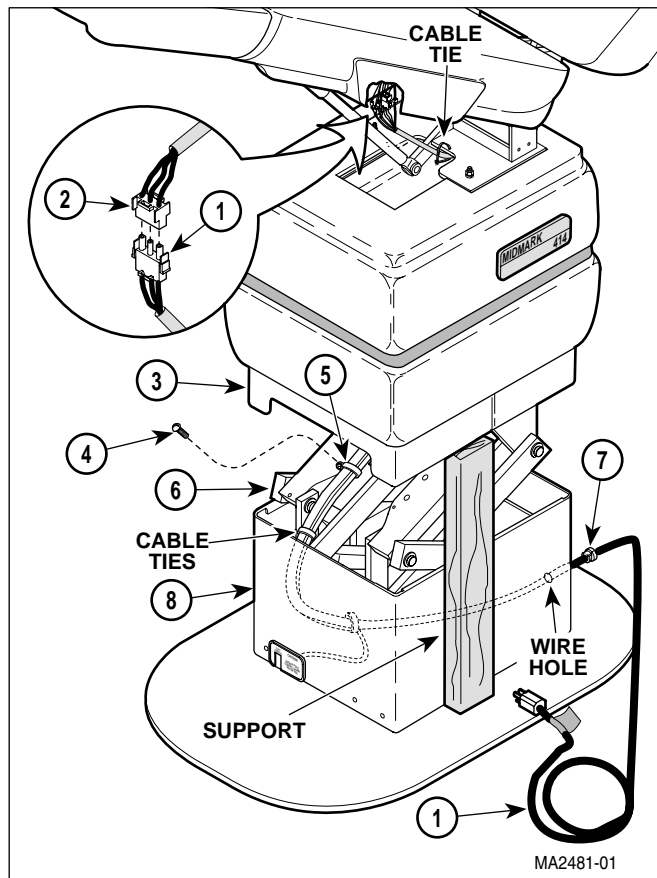

Figure 4-5. Power Cord Removal / Installation
- (2) Unplug power cord from wall outlet.
- (3) Disconnect power cord wire harness (1, Figure 4-5) from wire harness (2).
- (4) Raise up outer shroud (3) and use a support to hold it there.
- (5) Remove three screws (4) and three wire clips (5) from base subassembly (6).
- (6) Cut cable ties which are securing all wires/wire harnesses together.
- (7) Remove strain relief bushing (7) from inner shroud (8) and then remove power cord (1) from table.